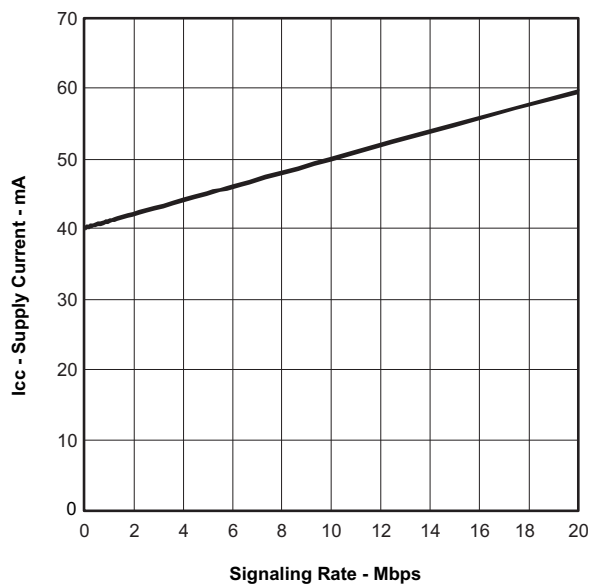

Figure 15.
- Changed the Switching Characteristics condition statement From: 15 kbps devices (HVD73, 74, 75) bit time > 65 ns To: 20 Mbps devices (HVD73, 74, 75) bit time > 50 ns 5 - Changed the Switching Characteristics condition statement From: 50 kbps devices (HVD76, 77, 78) bit time > 20 ns To: 50 Mbps devices (HVD76, 77, 78) bit time > 20 ns 6 - Added Figure 12 to TYPICAL CHARACTERISTICS. 10 - Added Figure 13 to TYPICAL CHARACTERISTICS. 11 - Added Figure 14 to TYPICAL CHARACTERISTICS. 11 - Added Figure 15 to TYPICAL CHARACTERISTICS. 11 - Added Figure 16 to TYPICAL CHARACTERISTICS. 11 - Added Figure 17 to TYPICAL CHARACTERISTICS. 12 - Added VALUEs to the Thermal Characteristics table in the DEVICE INFORMATION section. 12 - Added APPLICATION INFORMATION section to data sheet. 14